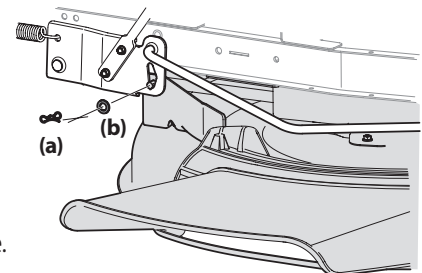

Figure 18
3. Remove the bow-tie cotter pin (a) and flat washer (b) from the deck lift assembly and retain for reinstallation later. See Figure 18.